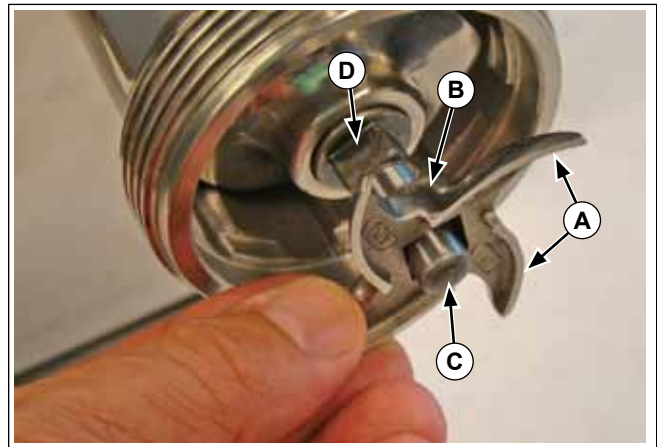

Figure 8. Knife Blade and Blade Shaft Figure
4. Slide the worm gear assembly (B) and the shaft washer (A) into the grinder chamber (C). Slide the worm gear shaft (D) in until it is seated fully.
5. Slide the knife blade (B) so that the flat ground edges (A) face to the outside as shown, onto the blade shaft (C). See Figure 8.